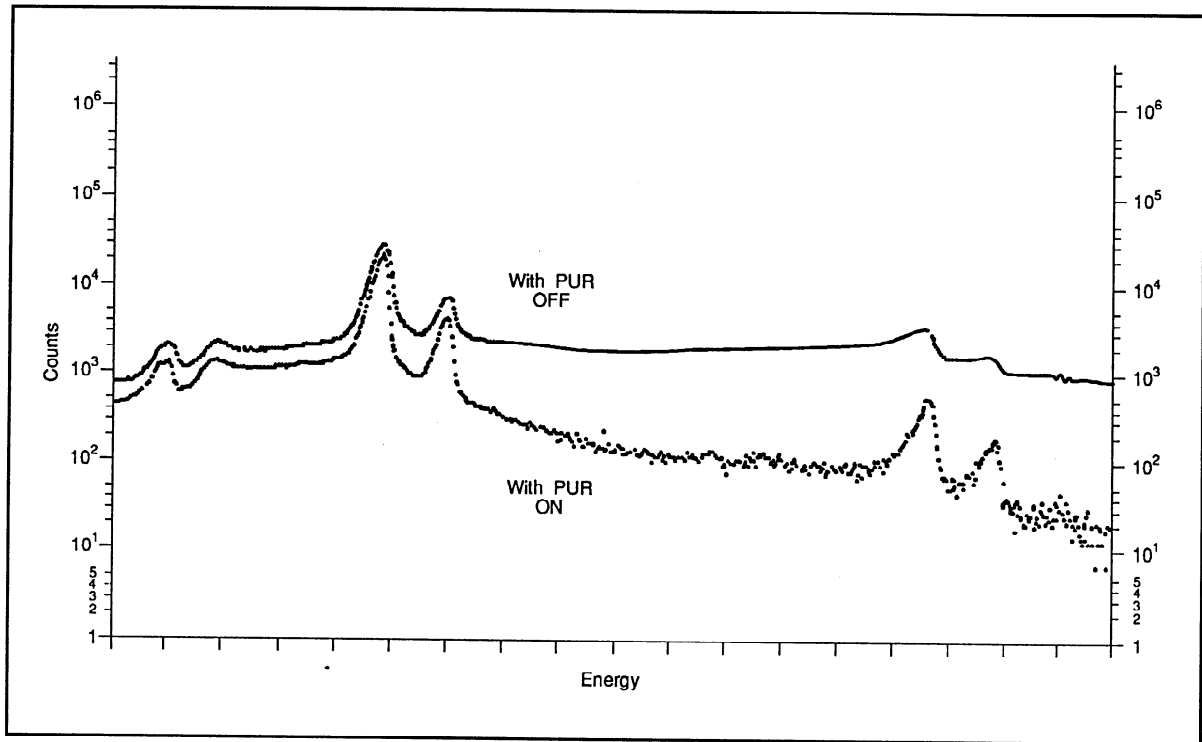

Figure 5.2 ^{57}Co at 50 kcps and 4 μs Shaping
7. Accumulate a spectrum with the Model 2025 PUR ON/OFF switch OFF. Enable the MCA's OVERLAP function and compare the first half of the memory (PUR ON) to that of the second half (PUR OFF), see Figure 5.2.